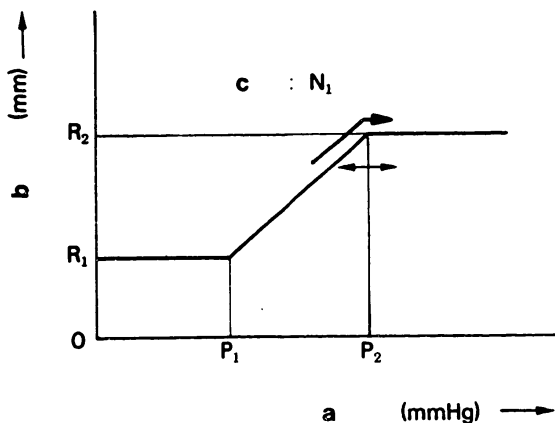

Fig. 170
- 3) Increase the boost pressure, and ensure it reaches  $P_2$  mmHg when the control rack is at  $R_2$  mm. If the boost pressure is not as specified, replace the boost compensator spring (16). (Fig. 170)
- 4) Recheck the boost compensator stroke, and if not as specified readjust the screw (55).